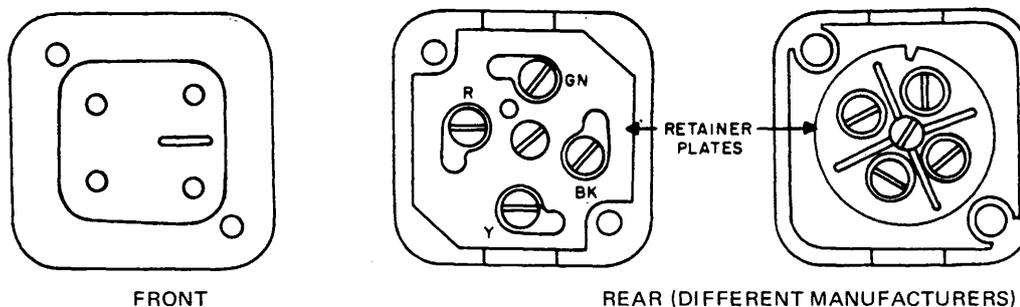

Figure 1. Surface-Mounted Indoor Installation (404B Jack).
2.01 The various types of jacks can best be described by putting them in two categories, surface-mounted and flush-mounted. The surface-mounted jacks are the 404B indoor jack and the 16151 outdoor jack (Figures 1 and 2). The flush-mounted jacks are the 16152 outdoor jack and those installations employing the 548A jack and various outlet plates and mounting brackets (Figures 3, 4 and 5).
2.02 The 404B indoor jack shown in Figure 1 is principally intended for use where wiring is run exposed along the baseboard or floor. Two wood screws are supplied with the jack for mounting to a wood surface. It accepts a Type 28 plug.
3.03 Install station wire to the 404B indoor jack in the following manner (Figure 1):
- (a) Connect station wire to terminals in accordance with the color code markings shown in Figure 1. Orient the 404B jack so that the cord entry hole is located at the top; with the cord exit at the bottom of the plug.